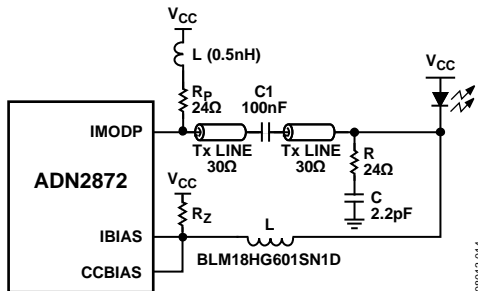

Figure 32. Recommended Interface for ADN2872 AC Coupling
This on-chip resistor helps to damp out the low frequency oscillation observed from some inexpensive lasers. If the on-chip resistance does not provide enough damping, one external  $R_Z$  may be necessary (see Figure 32 and Figure 33).
The schematic in Figure 32 describes the recommended circuit for interfacing the ADN2872 to most TO-Can or coax lasers. These lasers typically have impedances of 5  $\Omega$  to 7  $\Omega$  and have axial leads. The circuit shown works over the full range of data rates from 155 Mbps to 3.3 Gbps including multirate operation (with no change to PAVCAP and ERCAP values); see Figure 18, Figure 19, and Figure 20 in the Typical Performance Characteristics section for multirate performance examples. Coax lasers have special characteristics that make them difficult to interface to. They tend to have higher inductance, and their impedance is not well controlled. The circuit in Figure 32 operates by deliberately mismaturing the transmission line on the laser side, while providing a very high quality matching network on the driver side. The impedance of the driver side matching network is very flat vs. frequency and enables multirate operation. A series damping resistor should not be used.
The 30  $\Omega$  transmission line used is a compromise between drive current required and total power consumed. Other transmission line values can be used, with some modification of the component values. The R and C snubber values in Figure 32, 24  $\Omega$  and 2.2 pF, respectively, represent a starting point and must be tuned for the particular model of laser being used.  $R_p$ , the pull-up resistor, is in series with a very small (0.5 nH) inductor. In some cases, an inductor is not required or can be accommodated with deliberate parasitic inductance, such as a thin trace or a via placed on the PC board.
Recommended component layouts and gerber files are available by contacting sales at Analog Devices. Note that the circuit in Figure 32 can supply up to 56 mA of modulation current to the laser, sufficient for most lasers available today. Higher currents can be accommodated by changing transmission lines and backmatch values. This interface circuit is not recommended for butterfly-style lasers or other lasers with 25  $\Omega$  characteristic impedance. Instead, a 25  $\Omega$  transmission line and inductive (instead of resistive) pull-up is recommended. Contact sales for recommendations on transmission lines and backmatch values.
In Figure 32 and Figure 33, Resistor  $R_Z$  is required to achieve optimum eye quality. The recommended value is approximately 200  $\Omega$  ~ 500  $\Omega$ .
**Table 6. ADN2872 Response to Various Single-Point Faults in AC-Coupled Configuration, as Shown in Figure 32**